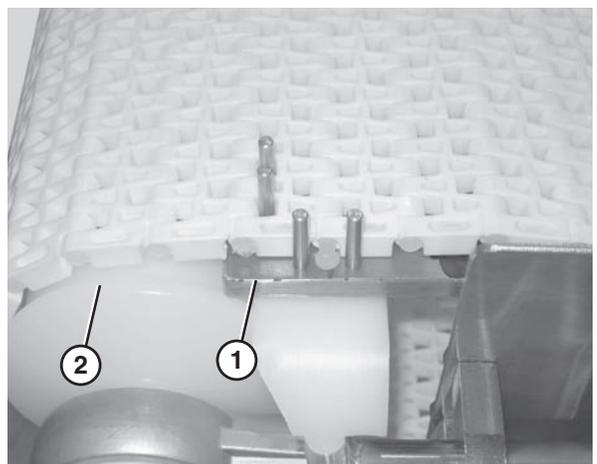

Figure 54
2. Secure the retaining head side of the belt. Use the belt removal tool (**Figure 54, item 1**) for 1" pitch belts. For all other belts, position the section of belt so that it is braced by the flanged puck (**Figure 54, item 2**).